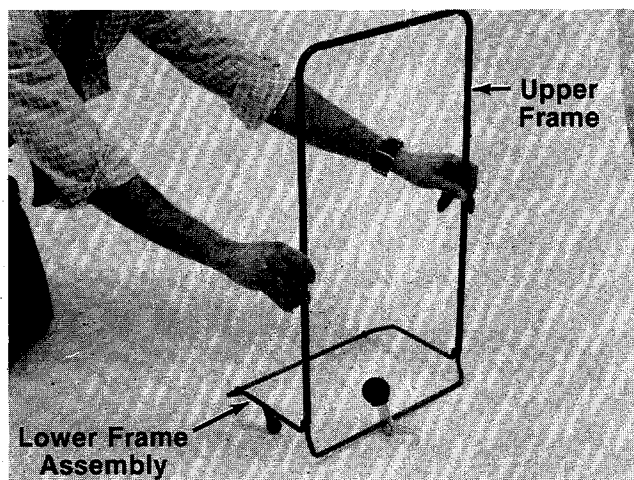

FIGURE 6.
- ← 1. Place the upper frame over the lower frame assembly as shown in figure 6.